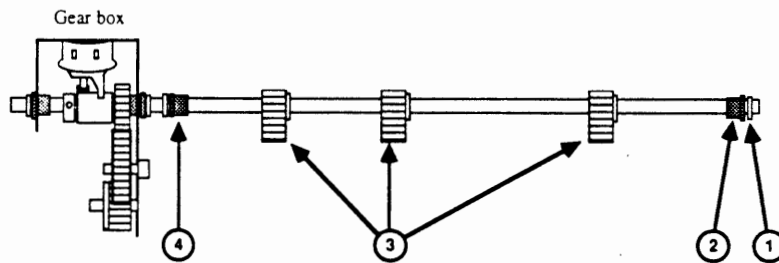

FIGURE 2-46: ROLLER SHAFT
3. Using grip ring pliers and safety goggles, remove the grip-ring at the end of the roller shaft (Figure 2-46, #1); then slide off the bushing (Figure 2-46, #2).
4. On the other side of the roller shaft, slide the bushing (Figure 2-46, #4) out of its slot in the frame, and lift up the roller shaft part way. Unhook the spring that holds it to the other side of the assembly, and lift it free.
5. Remove the three E-rings and pickup rollers (Figure 2-46, #3).
2. Put the roller shaft back into place, making sure the bushing (Figure 2-46, #4) is fully inserted in its slot, so that it holds the shaft in place. (The bushing has a small tooth that must be positioned in the slot opening.)